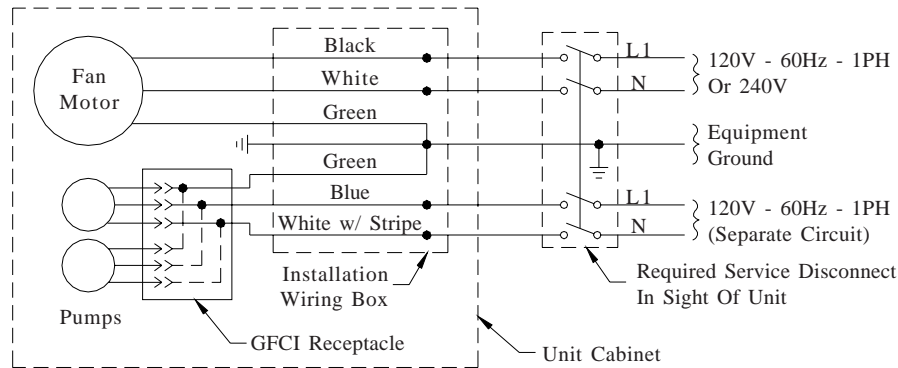

Fig. 8
- **Connect electrical.** Cooler must be connected to the proper line current, voltage and cycle, as indicated on the decal located at the electrical service entrance. Connecting improper voltage to motor will void motor warranty. See the wiring diagrams (figures 8 & 9) on page 3 for wiring electrical connections.